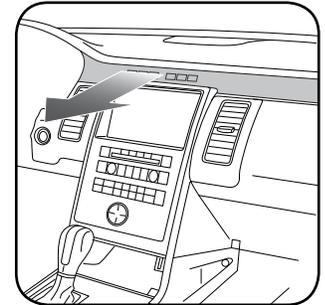

Fig. 1.2
2. Unclip and remove the trim panel that runs along the dash above the radio. (Fig. 1.2)